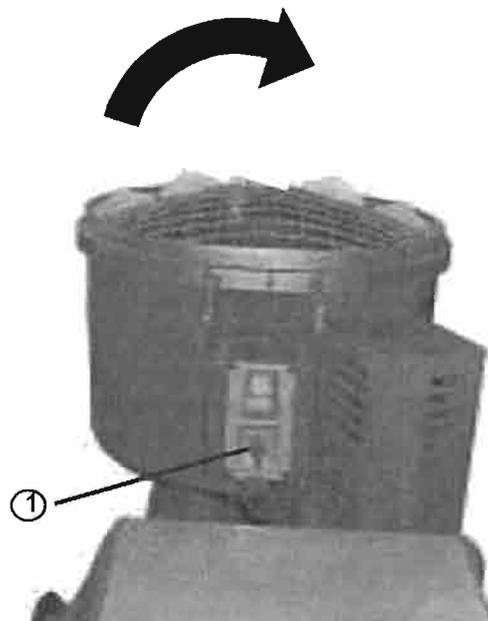

FIG 13
It is activated by means of switch (ref. 1, fig13); when this is turned from one position to the other, the blades start to rotate in the working direction or the opposite direction. The correct direction of rotation for work is as shown in figure 13.